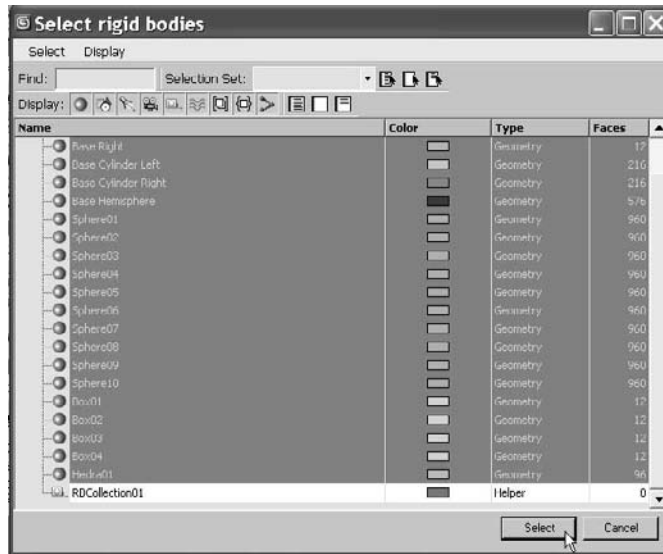

Figure 12.44
5. In the Select Rigid Bodies dialog box that opens, select all of the objects in the scene except for the collection itself and then click the Select button, as shown in Figure 12.44. The object names will appear in the Rigid Bodies field in the Command panel.